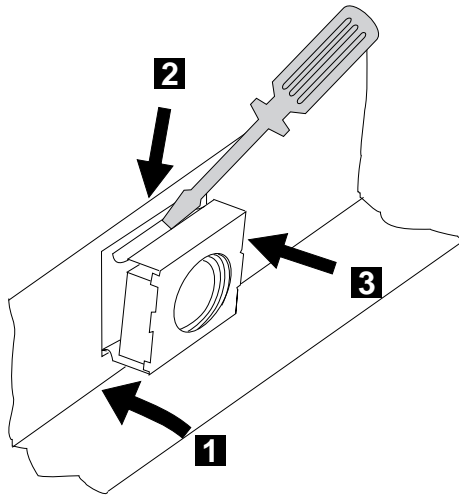

Figure 1-9. Installing the Captive Nuts
10. \_\_\_\_ Refer to Figure 1-9, and **install** (if necessary) the two captive nuts (PN 58G5766).